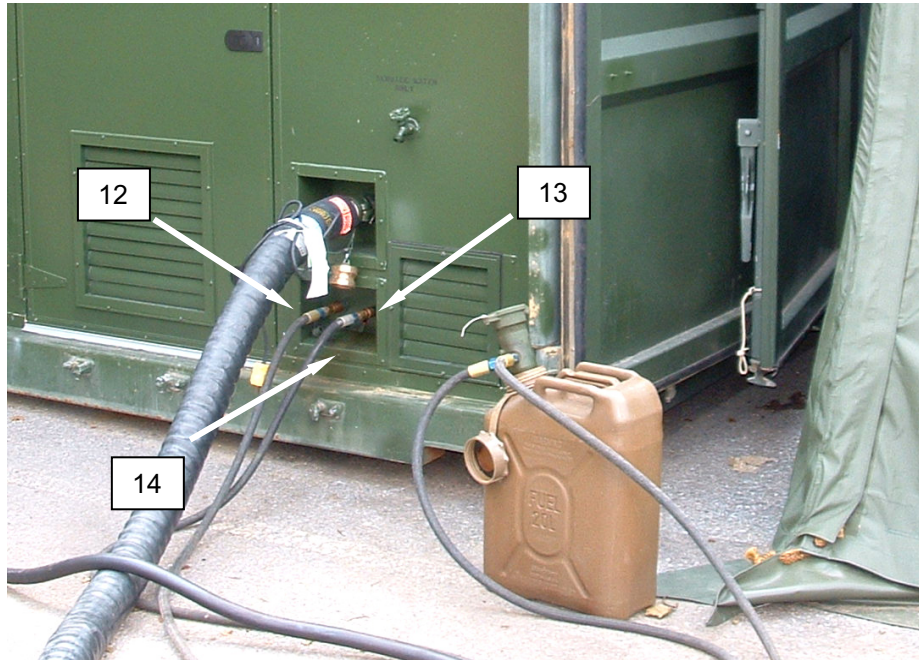

Figure 22. Disconnect Fuel Lines and Install Dust Caps during NBC Imminent or Actual Attack.
8. Disconnect the fuel supply line (**Figure 22, Item 12**) and the fuel return line (**Figure 22, Item 13**) from the fuel service panel (**Figure 22, Item 14**).